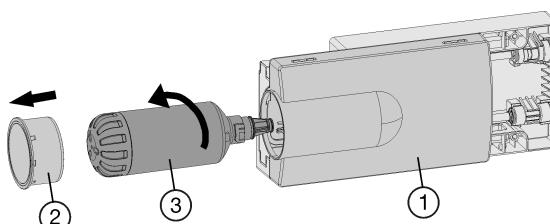

Fig. 48
- Pull out the tray Fig. 48 (1), if necessary.
- Remove the filter cover Fig. 48 (2).
- Turn the water filter Fig. 48 (3) approximately 100° counterclockwise and pull it out.